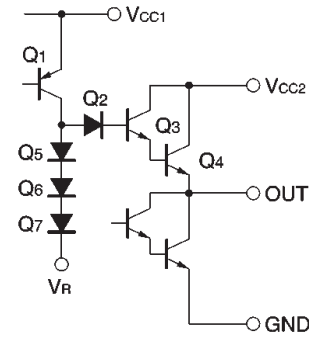

Fig.8
(4) V_{CC1} , V_{CC2} , and V_R are related to each other as shown in the output circuit diagram of Fig. 8. Their values should be kept within the following ranges.